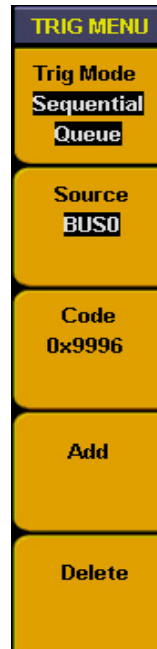

Fig.5-60: Sequential queue trigger
4. **Sequential queue trigger**: make BUS as trigger source and continuous setting data in BUS as trigger condition to generate trigger and also can set 8 data at the same time.(See Fig.5-60)